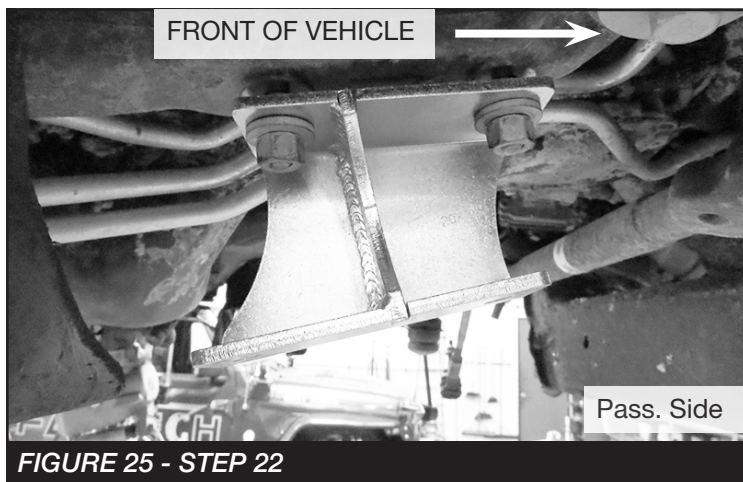

FIGURE 25 - STEP 22
22. Install the Fabtech Pass side Diff bracket (FT20926) to the Passenger side of the vehicles bottom factory frame mount using the factory hardware. Torque to 120 ft-lbs **SEE FIGURE 25**